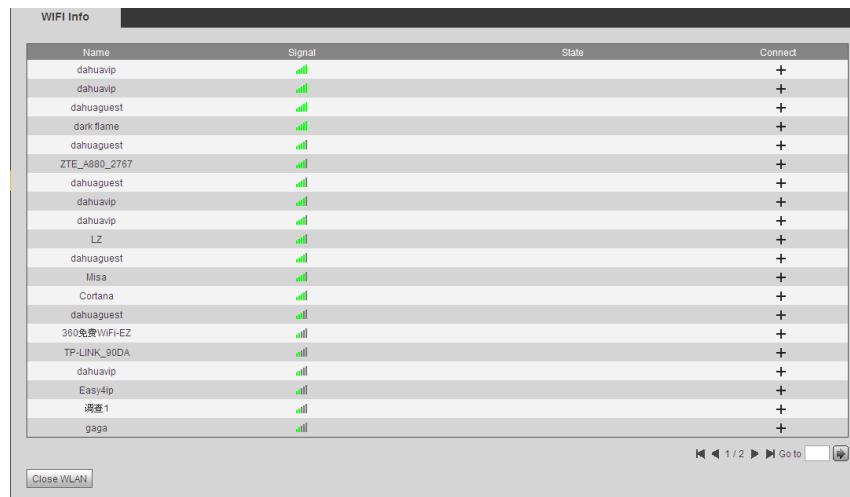

Figure 5-20
Step 2. Click Open WLAN, and system searches and displays available WIFI, see Figure 5-20.